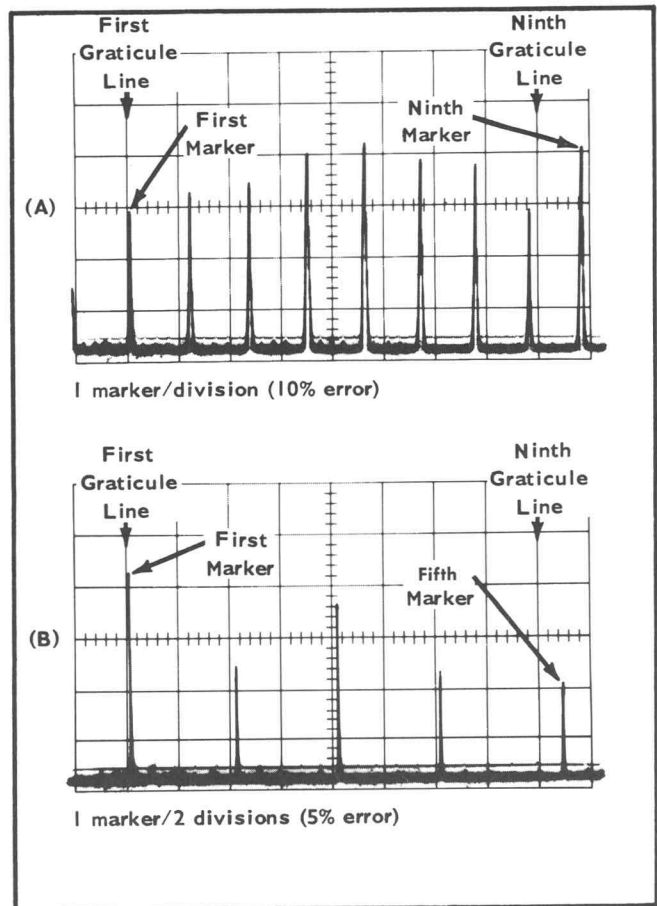

Fig. 6-5. Typical displays for Dispersion adjustments (Step 2).
k. Center the IF CENTER FREQ control and check the dispersion accuracy at each DISPERSION/CM setting, using Table 6-1. Position a modulation mark at the first graticule line and check the displacement of the ninth marker from the ninth graticule line for displays having 1 division/marker. If the display should have 2 divisions/marker, then check the displacement of the fifth marker from the ninth line (See Fig. 6-5).